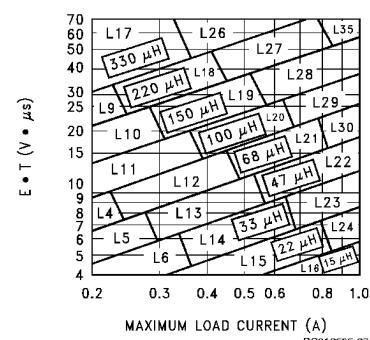

FIGURE 7. LM2595-ADJ
B. Use the $E \cdot T$ value from the previous formula and match it with the $E \cdot T$ number on the vertical axis of the Inductor Value Selection Guide shown in Figure 7 .	B. $E \cdot T = 34.8 \text{ (V} \cdot \mu \text{s)}$
D. Identify the inductance region intersected by the $E \cdot T$ value and the Maximum Load Current value. Each region is identified by an inductance value and an inductor code (LXX).	D. From the inductor value selection guide shown in Figure 7 , the inductance region intersected by the 35 ($V \cdot \mu s$) horizontal line and the 1A vertical line is 100 μ H, and the inductor code is L29.